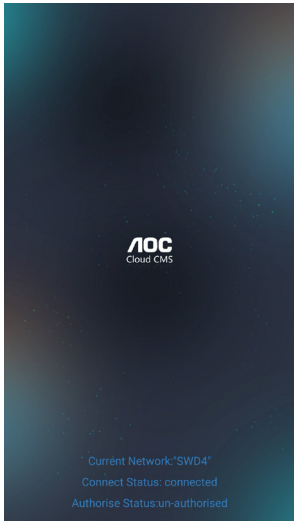
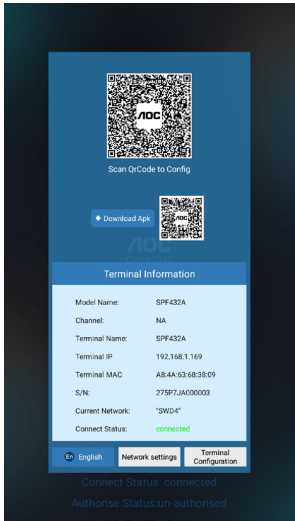
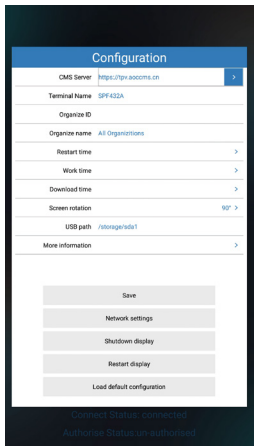

Figure 1
Figure 2
Figure 3
- 2. Figure 1 shows the main interface: Used play content edited in the cloud.
- 3. Figure 2 shows the terminal details interface: From the main interface (Fig. 1), short-press Option on the remote control to bring up this interface. This interface mainly displays the terminal name, terminal IP address, and terminal MAC address.
- 4. Figure 3 shows the server connection configuration interface: Click "Terminal Configuration" in the interface shown in Figure 2 and fill in the CMS server address and authentication key so that you can connect to the cloud server and complete authentication.
- 1. Press the "Options" key on the remote control to go to the interface shown in Fig. 2.